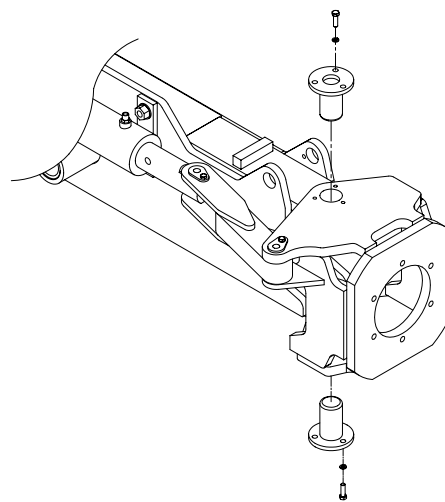

Figure 1
3. Remove the three 3/8-16 bolts securing the upper left king pin. (see Figure 1)
4. Replace the upper left king pin with a supplied unit. (see Figure 1)